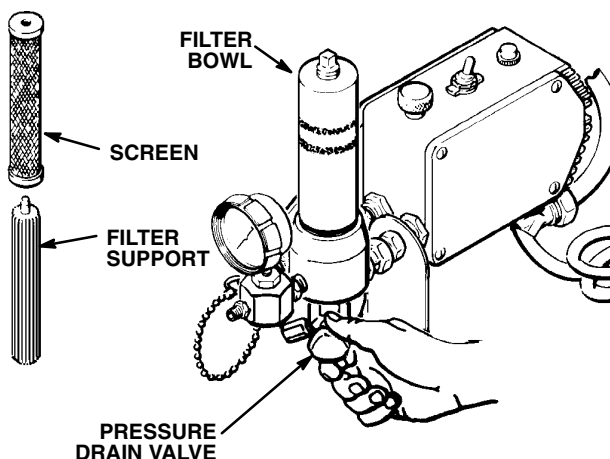

Fig 15–1
2. If the sprayer has been used before, remove the filter bowl and screen; see manual 307–273, supplied. Clean the screen separately and install the bowl without the screen to flush it. See Fig 15–1.